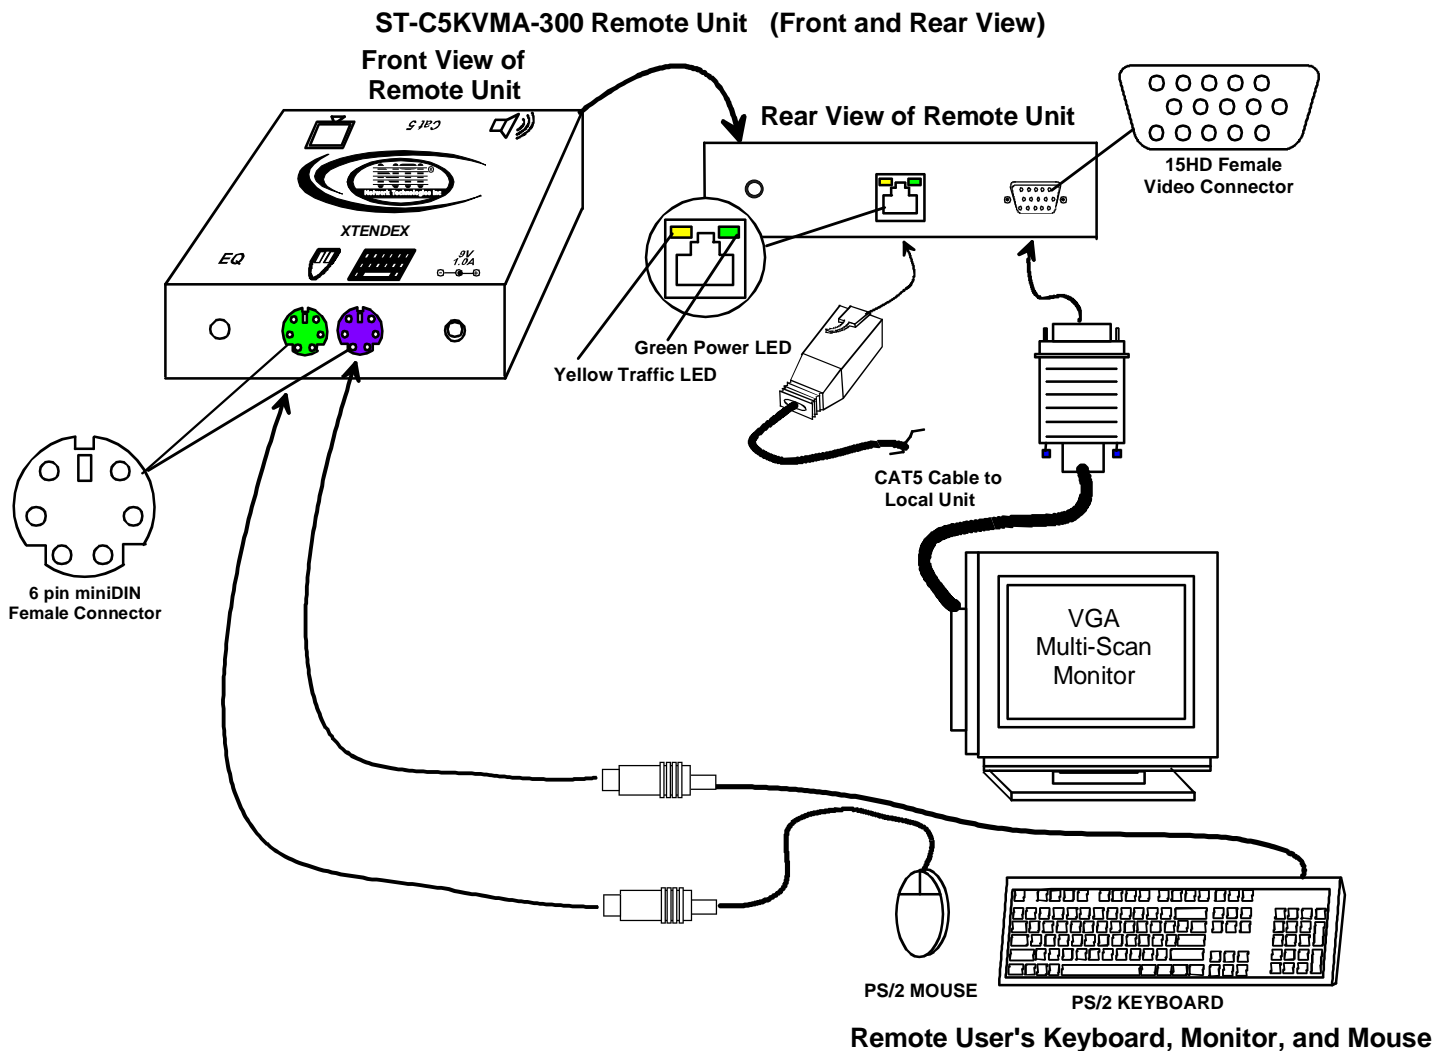

Figure 1- Connect the Extended Components to the Remote Unit
3. Connect the device(s) to the Remote Unit (see Fig. 1)(KVM models only).